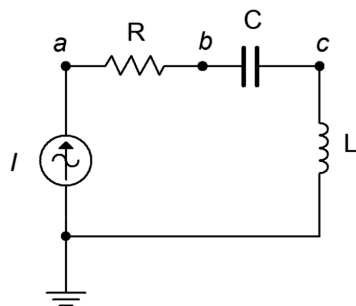

Figure 2.27
45. For the circuit of Figure 2.27, determine the voltages across each component. The source is a 50 mA peak sine at 15 kHz, $R = 200 \Omega$, $C = 100 \text{ nF}$ and $L = 1.5 \text{ mH}$.